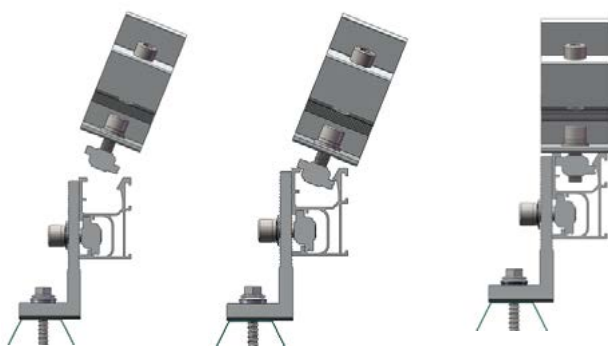

Figure 9
1) Fix the Front Leg into the top channel of ECO Rail, then fasten the Front Leg after the position is adjusted properly as shown in Figure 9 and 10.